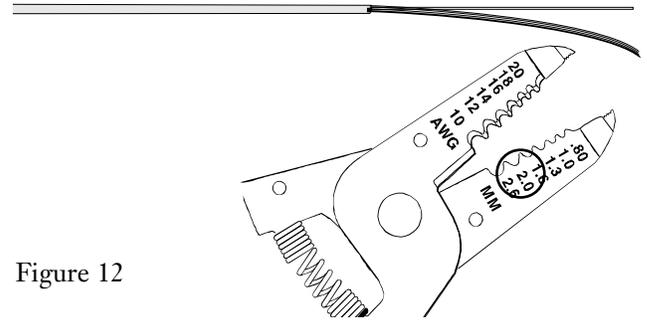

Figure 12
5.2 Use the 2.0 mm opening on the buffer stripping tool to cut the first subunit jacket at the strip point. Slide the jacket off of the fiber (Figure 12).